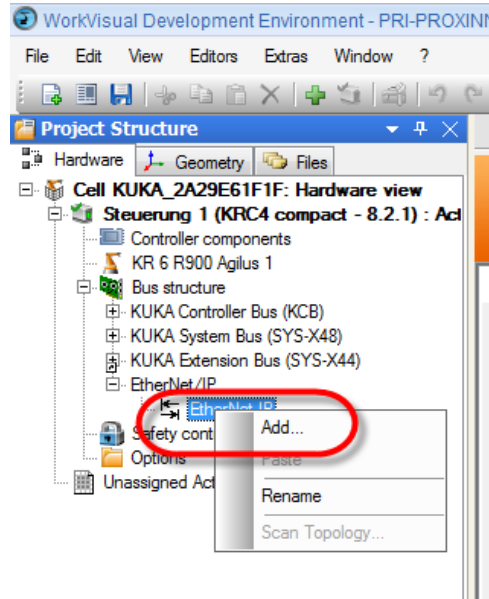
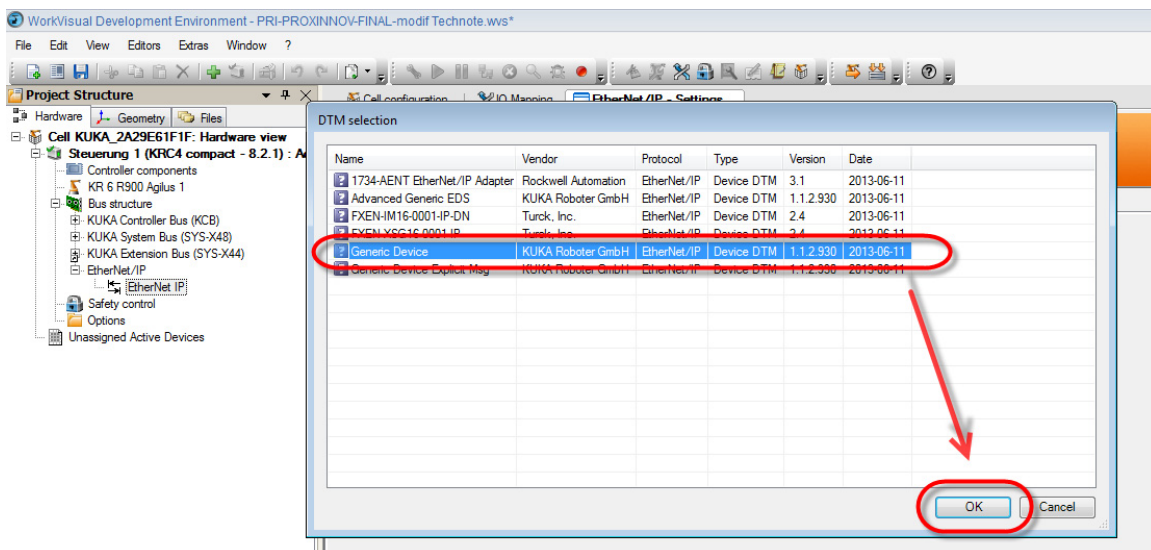
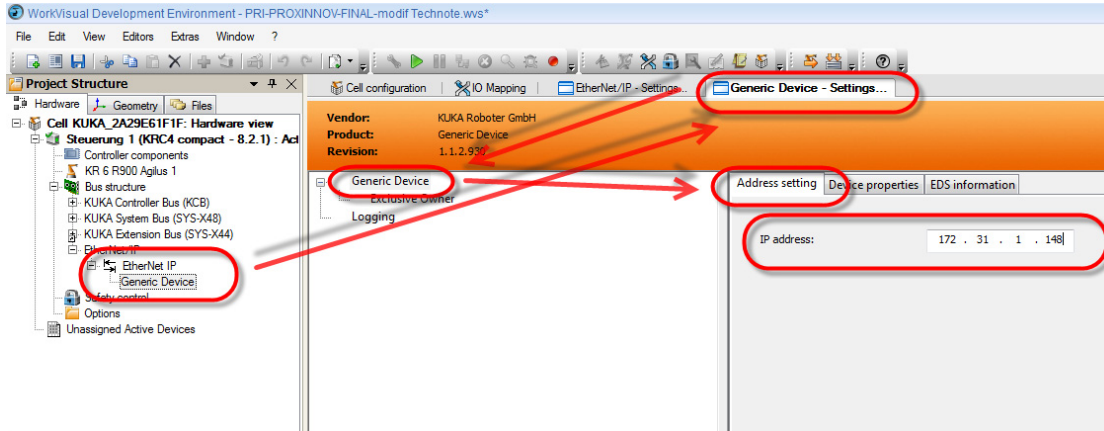

Figure 17.
Figure 18.
Figure 19.
7. Referring to Figure 17, expand *Bus structure - EtherNet/IP*, then right click on *Bus structure - EtherNet/IP - EtherNet IP*, and then click *Add...* in response to the popup; the DTM selection popup shown in Figure 18 appears.
8. Referring to Figure 18, select the protocol *Generic Device* from KUKA Roboter GmbH, and click the *OK* button; the Generic Device - Settings popup shown in Figure 19 appears.
9. Referring to Figure 19, double click on *Generic Device*.